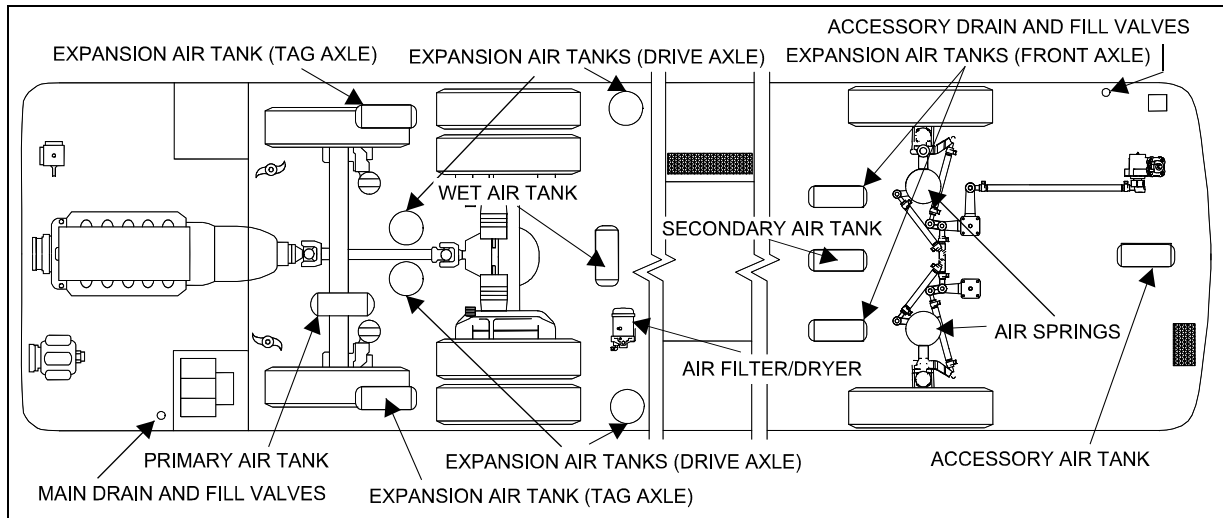

FIGURE 24: LOCATION OF AIR TANKS
2. Loosen the clamp on the rubber coupling and bring it up or down (Fig. 24).